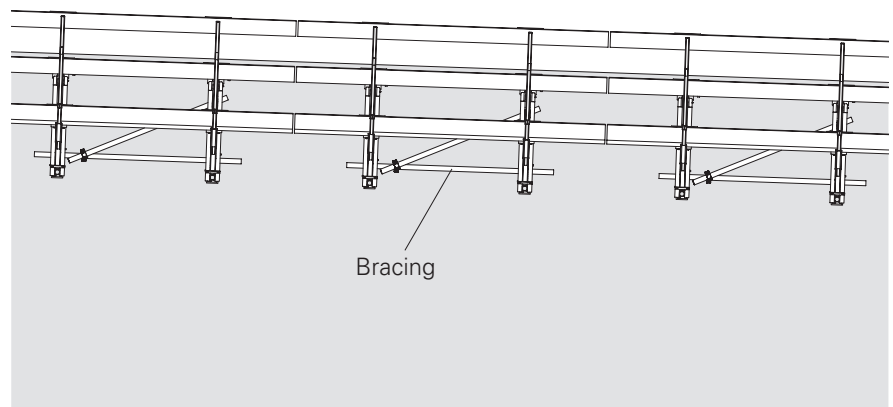

Fig. A8.03
- For longitudinal inclination  $0\% < s \leq 3\%$ , diagonal bracing and horizontal bracing must be installed. (Fig. A8.03)